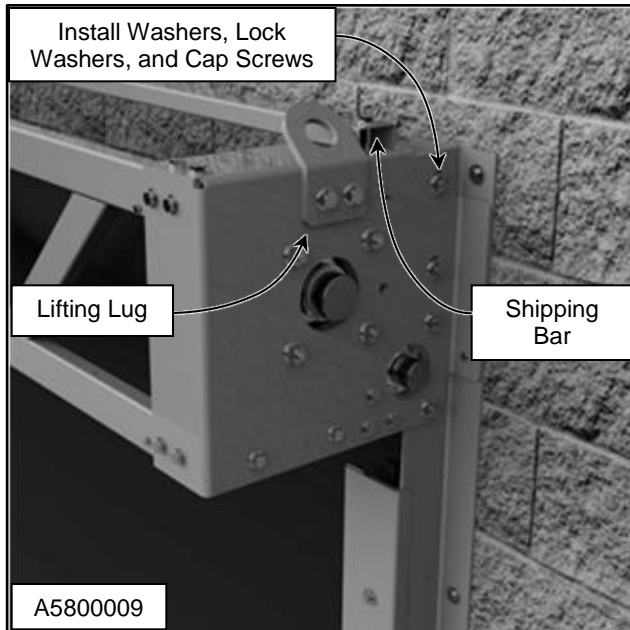
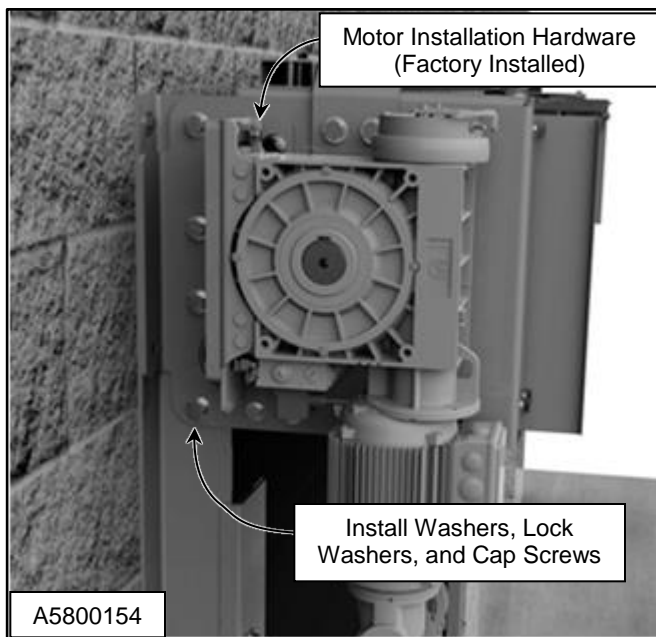

Figure 18
Figure 19
10. Lift into position and align head assembly with the side columns. Install washers, lock washers, and cap screws. (See Figure 18 and Figure 19)
13. **OPTIONAL:** The lifting lug and shipping bar are used to install the door. These pieces can be removed if there is a interference problem. (See Figure 18)